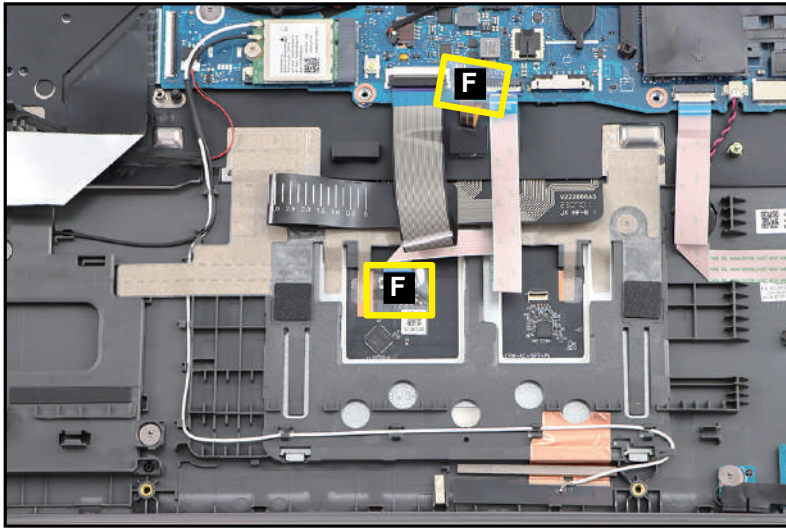

Figure 3-126. Replacing the Touchpad Module
6. Attach the mylars (F) to secure the touchpad FFC and keyboard backlight FPC connections as shown in Figure 3-126.